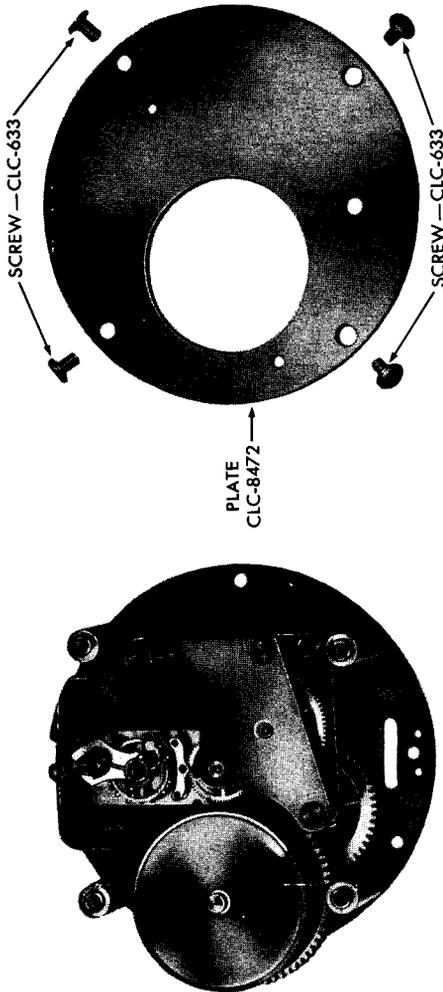

Figure 209 — Message Center Clock M1 — Back Plate Removed
i. **Remove Back Plate.** Remove the four back plate screws and back plate. Do not lay movement on the bench dial side down, unless the center pinion is protected with a movement block (fig. 209).
p. Replace Back Plate (fig. 209). Aline back plate on pillars and secure with screws.